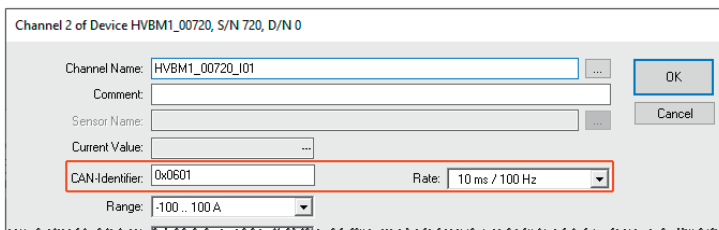

Fig. 5-41: **Channel configuration dialog**, module connected via CAN and **Per channel configuration** enabled
- ▶ The options **CAN identifier** and **Rate** are now available in the **Channel configuration dialog** (Fig. 5-41).